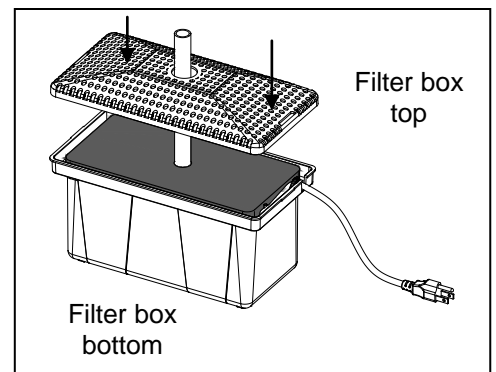

Fig. 5
5. Place the filter box top on top of the filter box bottom. It should snap closed. Fig. 5